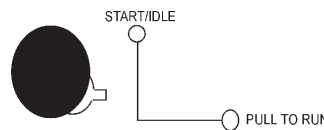

Figure 42. Engine Speed Switch (high)
- Once the engine is warm and the engine is running properly, pull and turn the engine throttle control lever to 'High' (Figure 42).